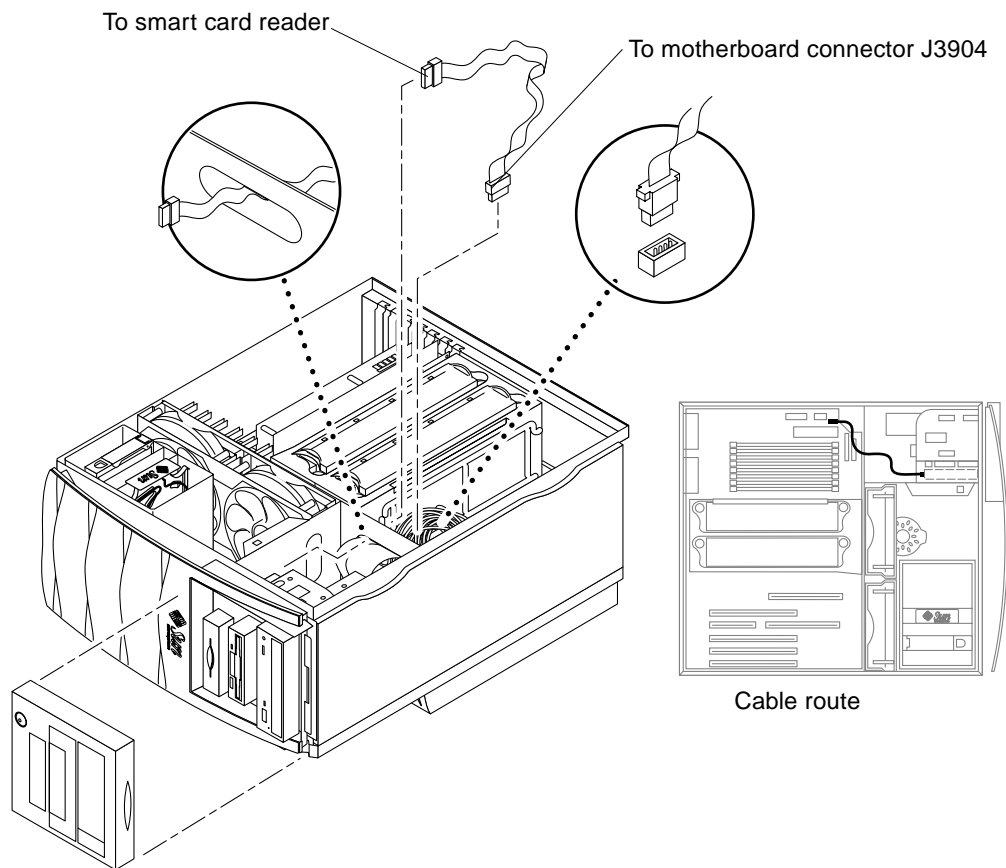

FIGURE 6-9 Removing and Replacing the Smart Card Reader Cable Assembly
- 2. Disconnect the smart card reader cable assembly from the smart card reader (FIGURE 6-9).**
1. **Position the smart card reader cable assembly in the chassis (FIGURE 6-9).**